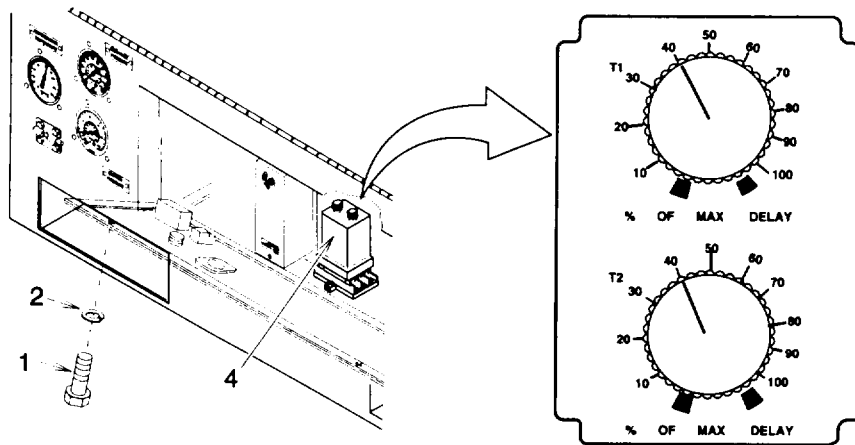

Figure 4-5. Defrost Timer Adjustment
- b. Remove two bolts (1, fig. 4-5) and lock washers (2). Open the control box cover (3). Discard lock washers.